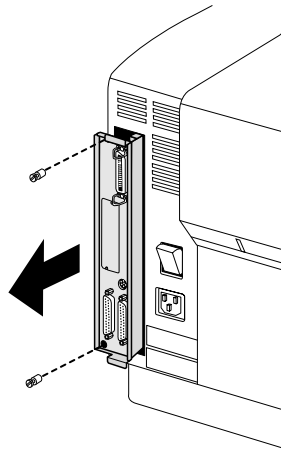

Fig. 8.12 *Remove the Mounting Screws*
3. Using a screwdriver, loosen the two mounting screws that hold the controller board to the printer (fig. 8.12).
4. Grasping the board by the top and bottom metal rims, gently pull the controller board straight out and lay it on a flat surface (fig. 8.12).